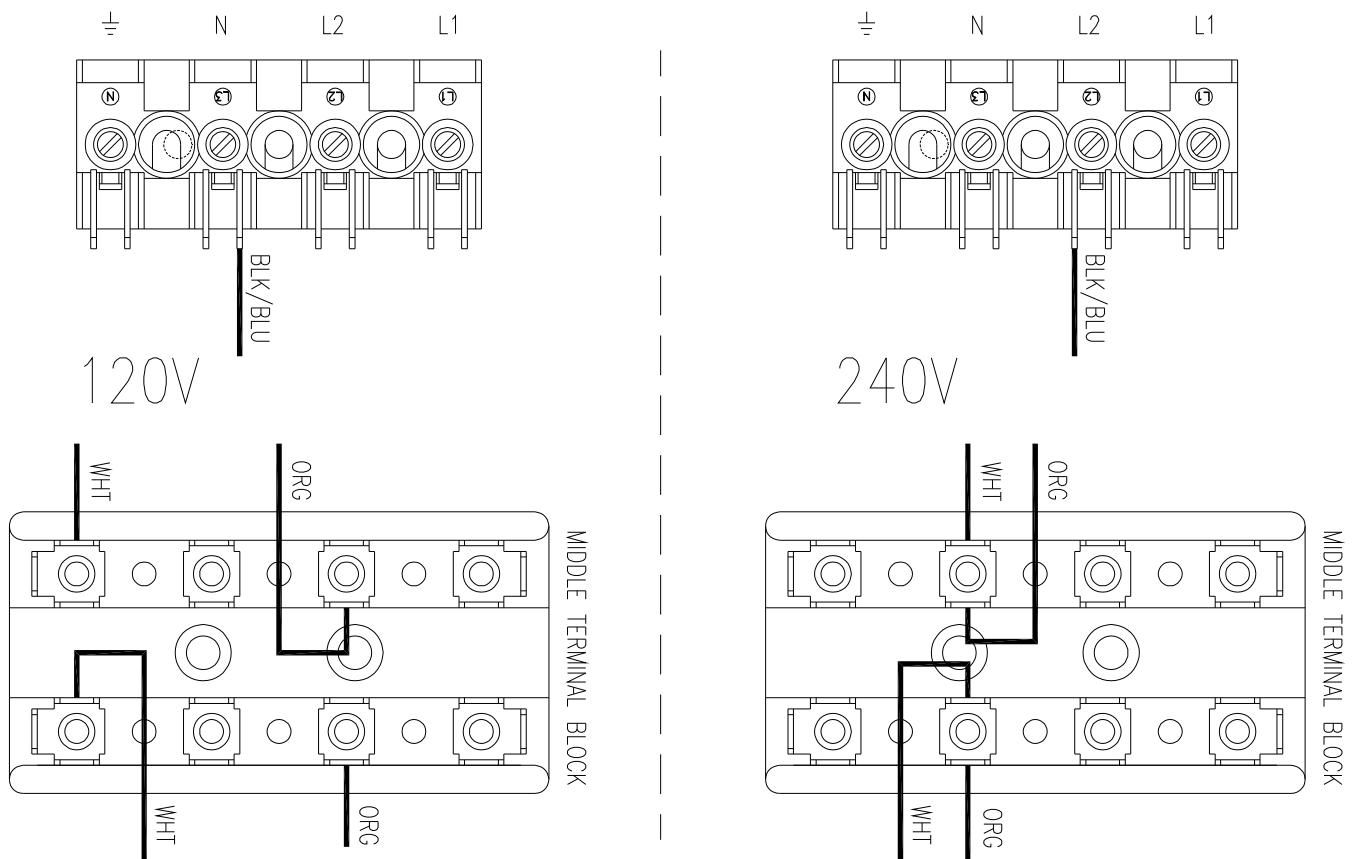

Figure 6 - Dual Voltage Stack Dryer Voltage Conversion
3. Move the black/blue wire from the N position of the main power terminal block to the L2 position of the main power terminal block in the upper control box assembly. See Figure 6 below.
4. Move the white wire of the upper motor harness to an upper inner left terminal in the middle terminal block in the lower control box assembly. See Figure 6 below.
5. Move the orange wire of the upper motor harness to an upper inner left terminal in the middle terminal block in the lower control box assembly. See Figure 6 below.
6. Move the white wire of the lower motor harness to a lower inner left terminal in the middle terminal block in the lower control box assembly. See Figure 6 below.
7. Move the orange wire of the lower motor harness to a lower inner left terminal in the middle terminal block in the lower control box assembly. See Figure 6 below.